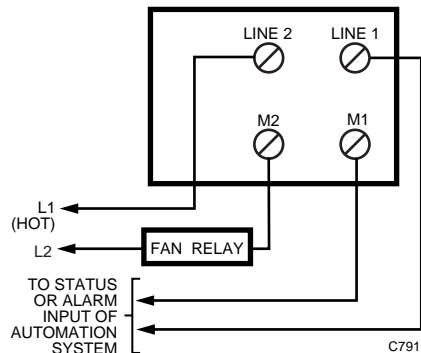
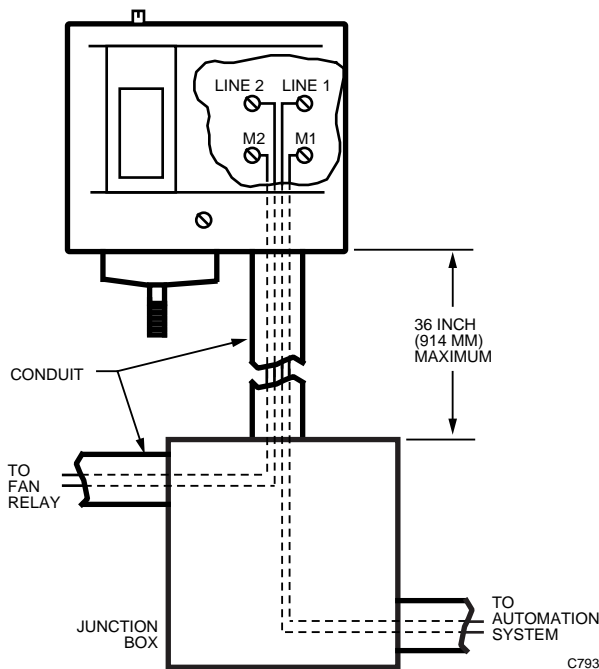

Fig. 4. Typical wiring diagram with automation input.
Fig. 6. Providing separate conduit for switched ac and automation input wiring.
- When switching both ac line voltage and an automation input (Fig. 4), the input wires must run no more than three feet in the same conduit. See Fig. 6.
For typical L482A wiring, see Fig. 4 and 5.